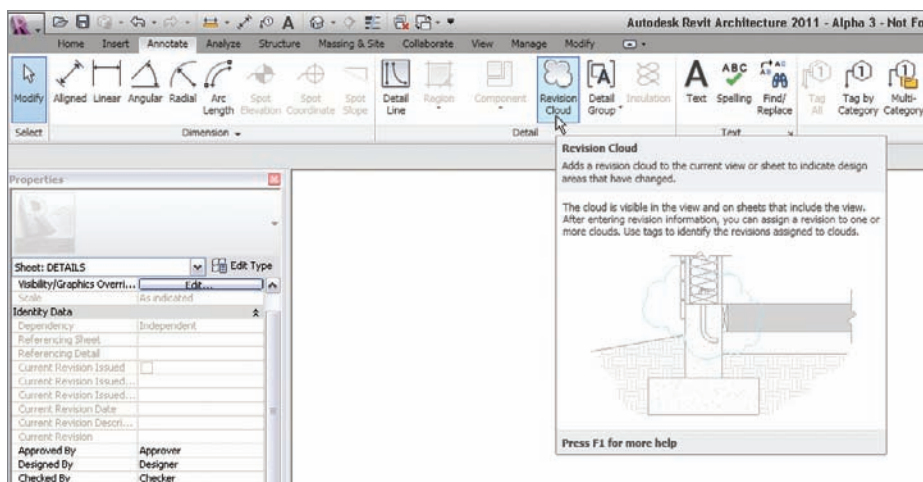

FIGURE 14.17 The Revision Cloud button on the Annotate tab
2. On the Annotate tab, click the Revision Cloud button, as shown in Figure 14.17. Notice you are now in Sketch Mode.